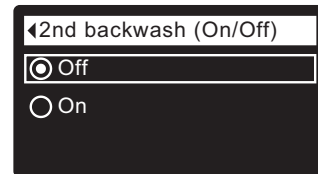

FIG. 85
- 8b. **Second backwash (On/Off):** If the desired option already has a dot next to it (See Figure 85), go to Step 9. Otherwise, press the DOWN (▼) or UP (▲) buttons to scroll to the other option, then press SELECT (O) to choose it. Setting this feature On adds a second backwash and rinse at the beginning of the recharge cycle. Default is Off. Set this feature On if your water supply contains a lot of sediment or iron.